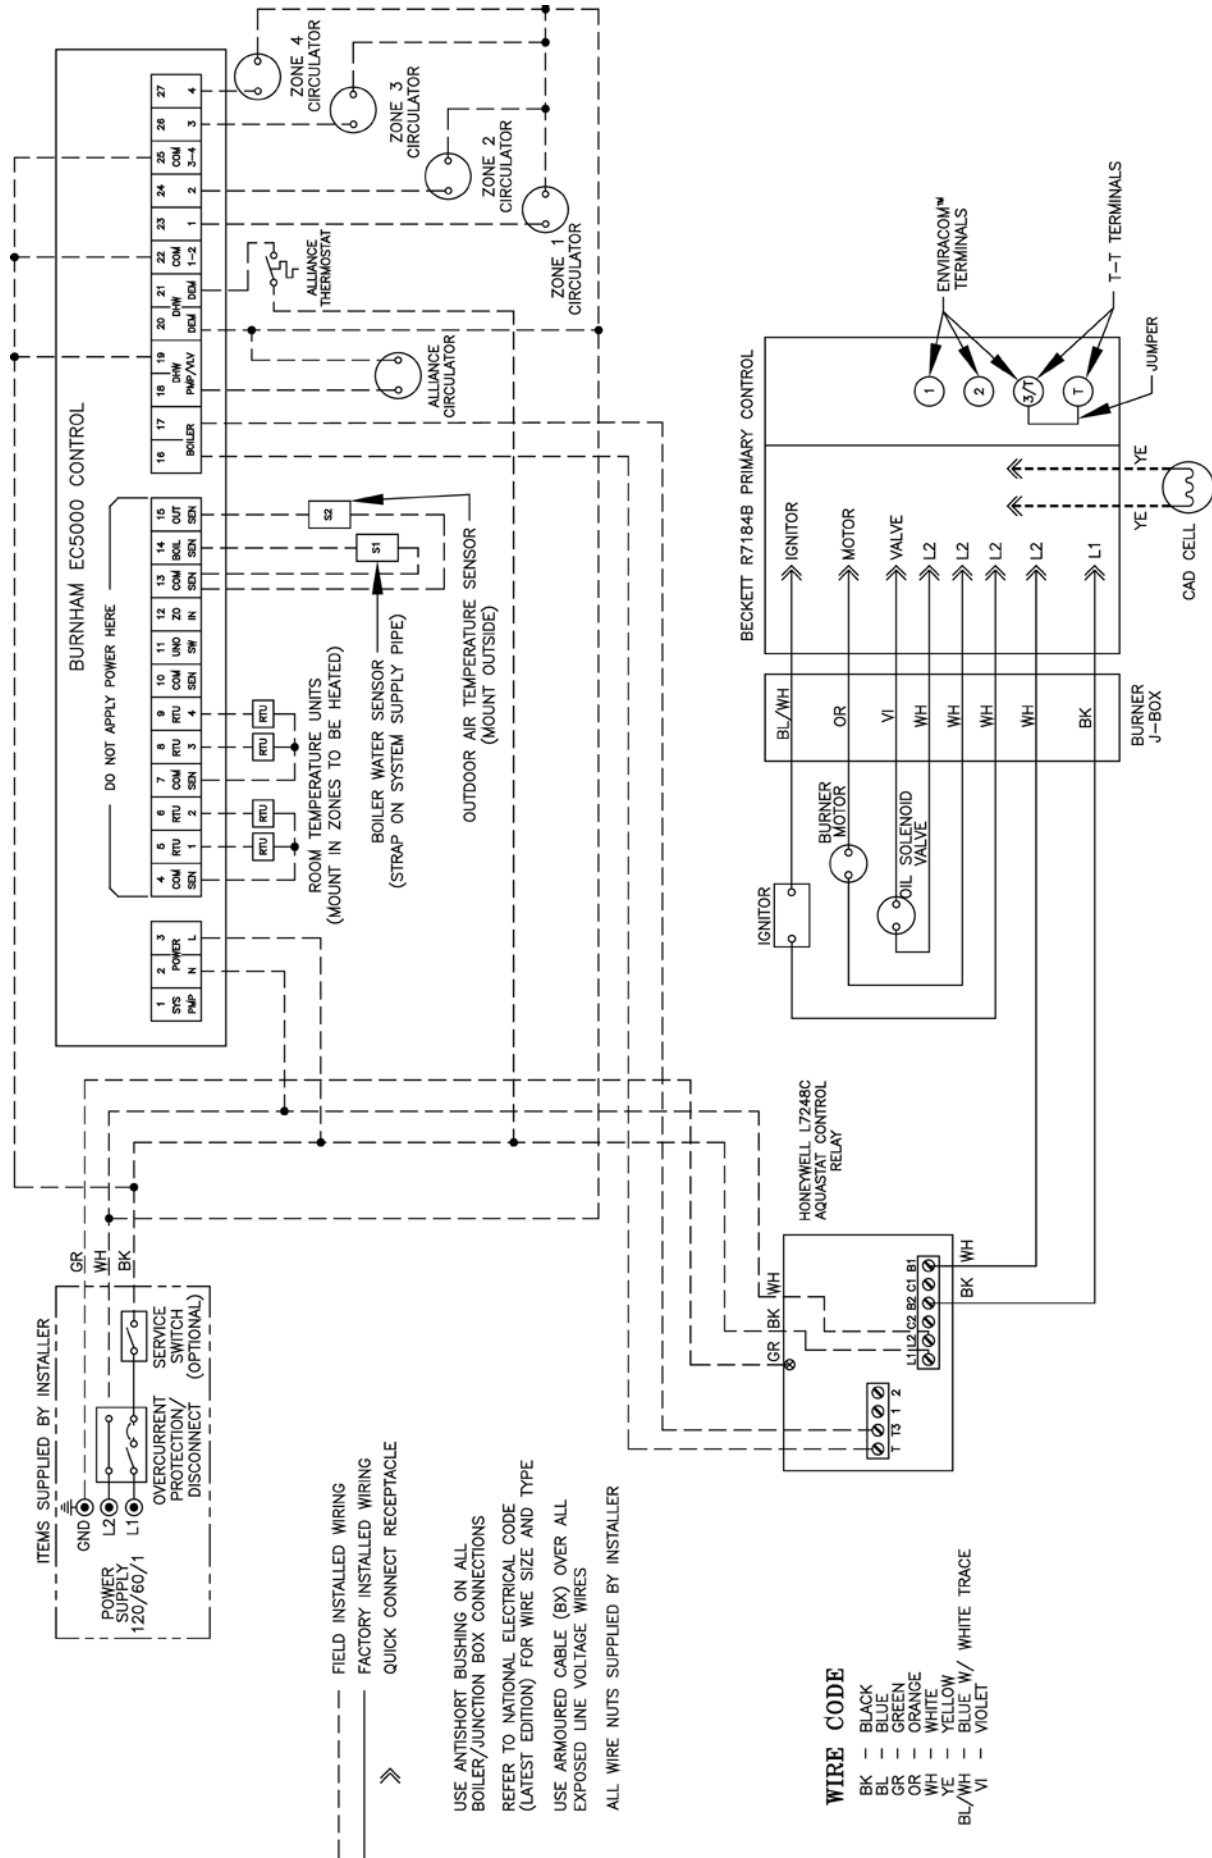

Figure 18: Circulator Zoning with EC5000 Wiring Schematic
8. Burnham EC5000 Circulator Zoned System – Refer to Figure 18 of this manual for the electrical diagram for this type of system. Wire the system as indicated in that diagram. Refer to the manual provided with the Burnham EC5000 Control for control operation and setup details.